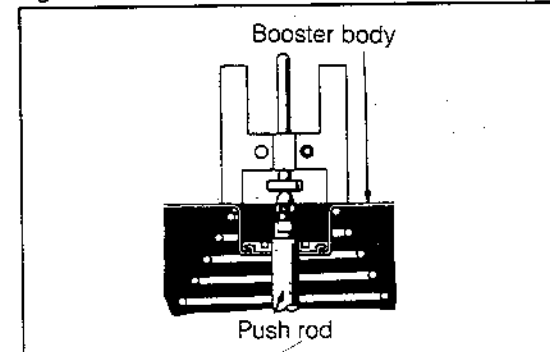

Fig. 8-55
- (2) Connect a MityVac to the union of the brake booster. Apply a negative pressure of 500 mmHg.
- (3) Set the SST as indicated in Fig. 8-55. Adjust the push rod so that the push rod clearance may become zero.
- (4) Perform the adjustment of the push rod clearance by turning the nut provided at the tip end of the push rod.